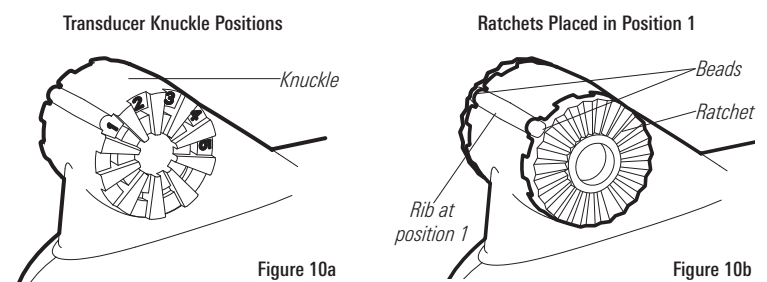
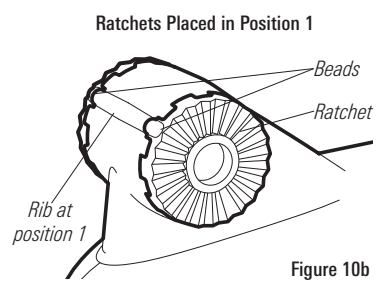

Figure 10a
Figure 10b
2. Place the two ratchets, one on either side of the transducer knuckle, so that the beads on each ratchet line up with the desired position number on the knuckle (Figure 10a). If you are setting the ratchets at position 1, the beads on each ratchet will line up with the rib on the transducer knuckle to form one continuous line on the assembly (Figure 10b).
If you are still not getting good high speed readings, you may need to disassemble the transducer mounting assembly and re-position the ratchets (Figures 10a - 10d).